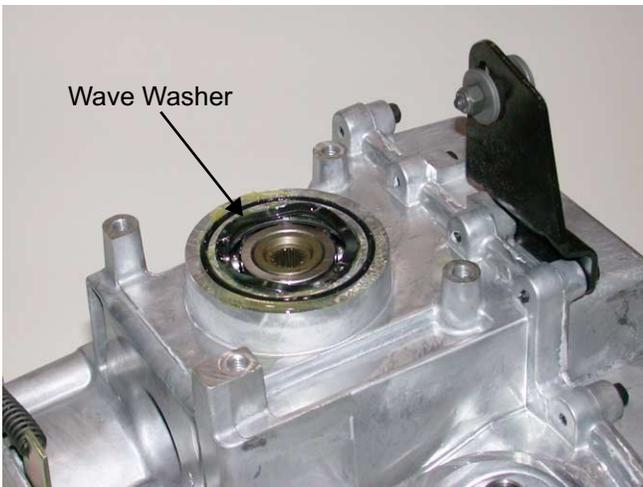

Figure 8.6
8.6. Remove and inspect the wave washer. See Figure 8.6.